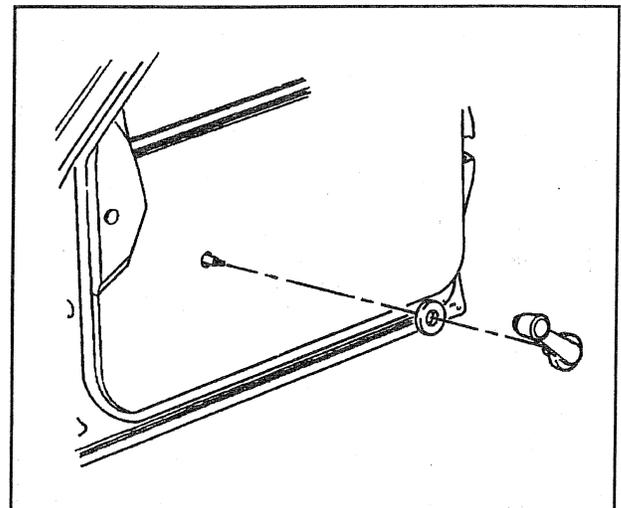

Figure 37—Typical Window Regulator Handle and Bearing Plate
2. Bearing plate (figure 37).
1. Bearing plate to door (figure 37).